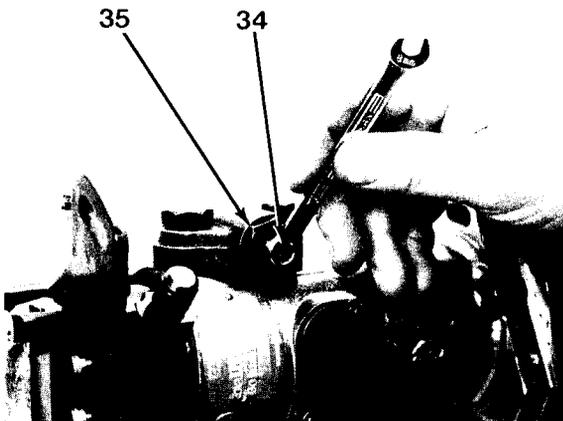

Figure 7-21
10. Remove plug and washer (34) from spring cap (35, Figure 7-21).